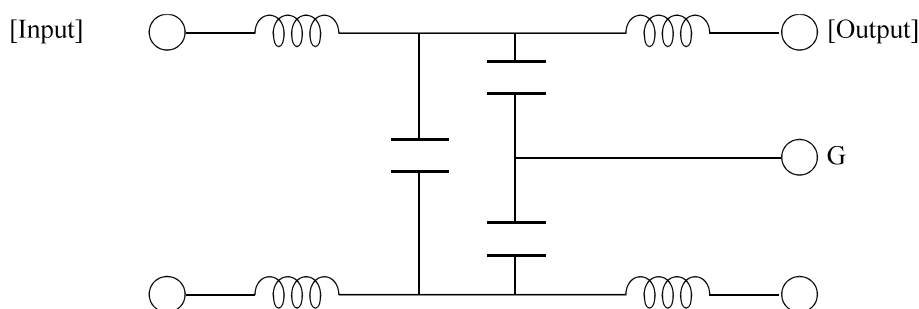

Figure 4.6 AC noise filter (recommended)
- Circuit construction: T-configuration as shown in Figure 4.6 is recommended.